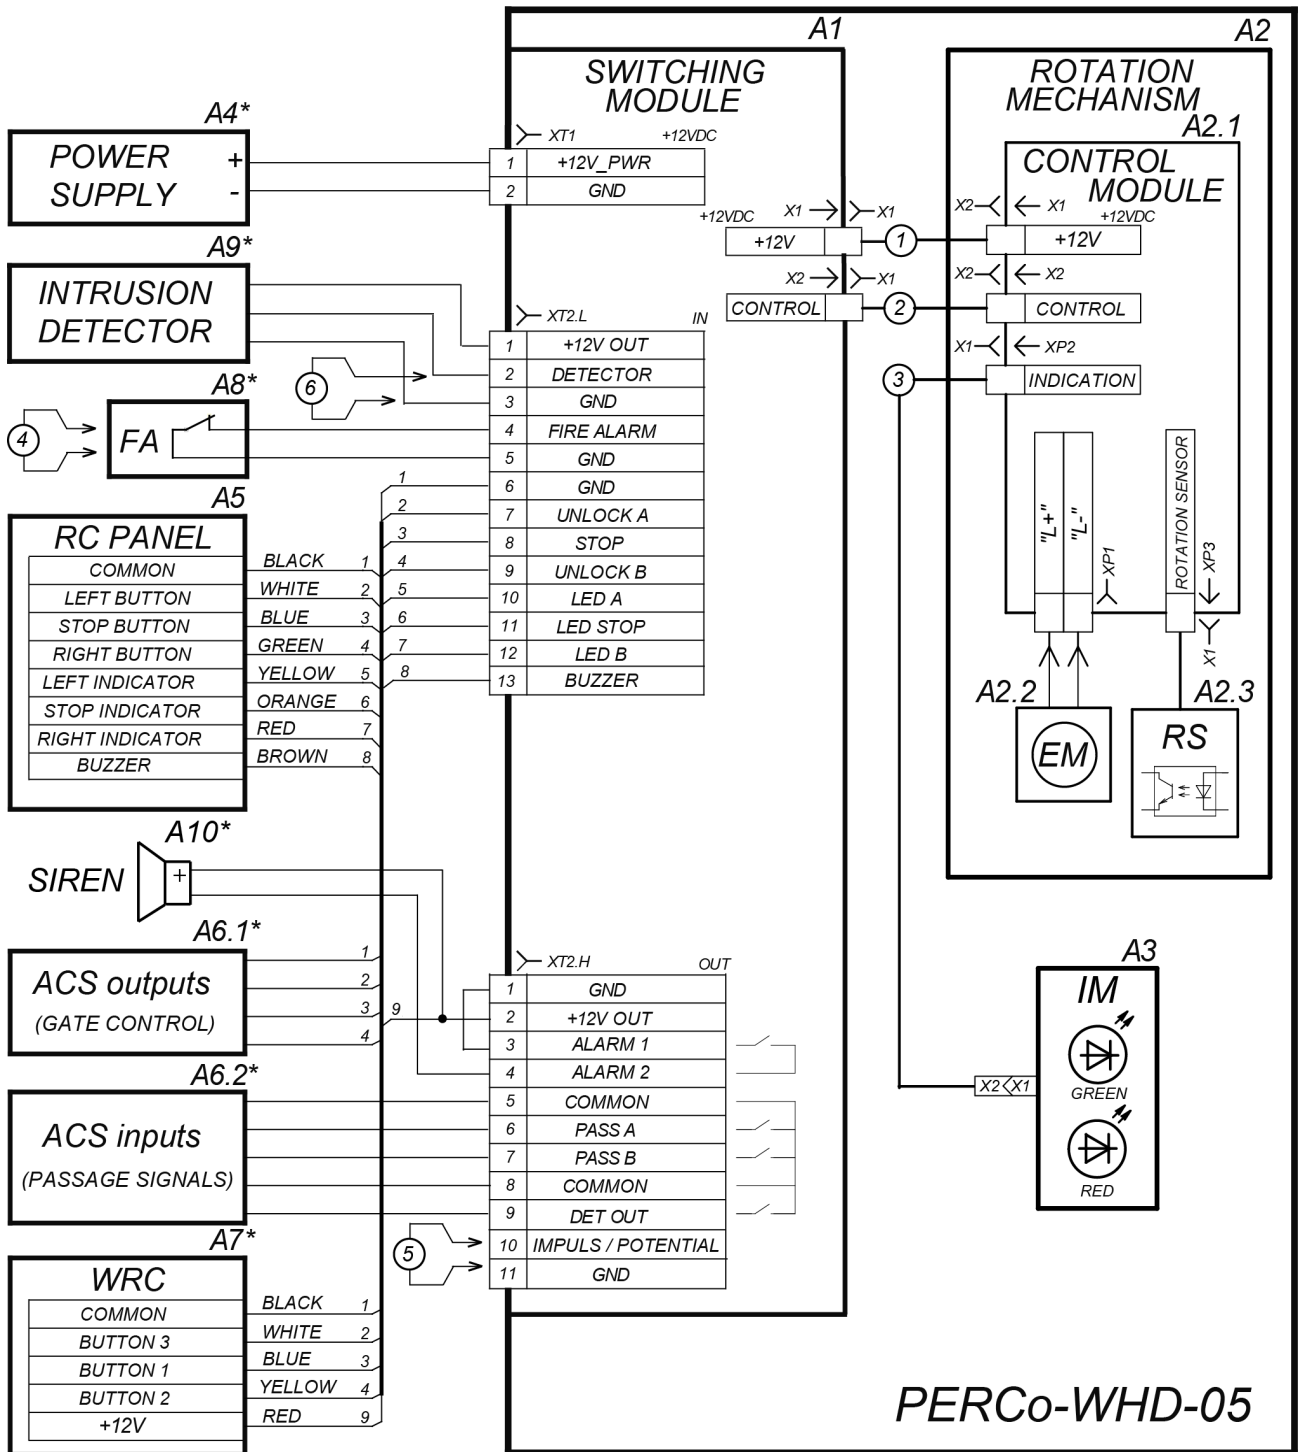

Figure 10. Electrical connection layout for the switching module board (see the legend in Table 3)
7. Remove a bracket (6) with a switching module (7) from the gate post through a hole in the base.
8. Connect RC panel (ACS / WRC device) and power supply cables to the switching module according to the layout in Fig. 10.
Table 3. Legend to Fig. 10